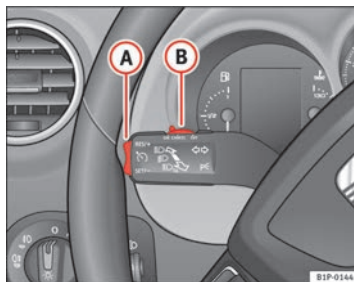

Fig. 133 Turn signal and main beam headlight lever; switch and rocker switch for the cruise control
- Press the upper part **RES/+** of the rocker switch ⇒ fig. 133 **A** to increase the speed. The vehicle will continue to accelerate as long as you keep the rocker switch pressed. When you release the switch, the new speed is stored.
Cruise control is switched off if you reduce speed by depressing the brake pedal. You can reactivate the control by pressing once on the upper part of the rocker switch **RES/+** ⇒ fig. 133 **A**.